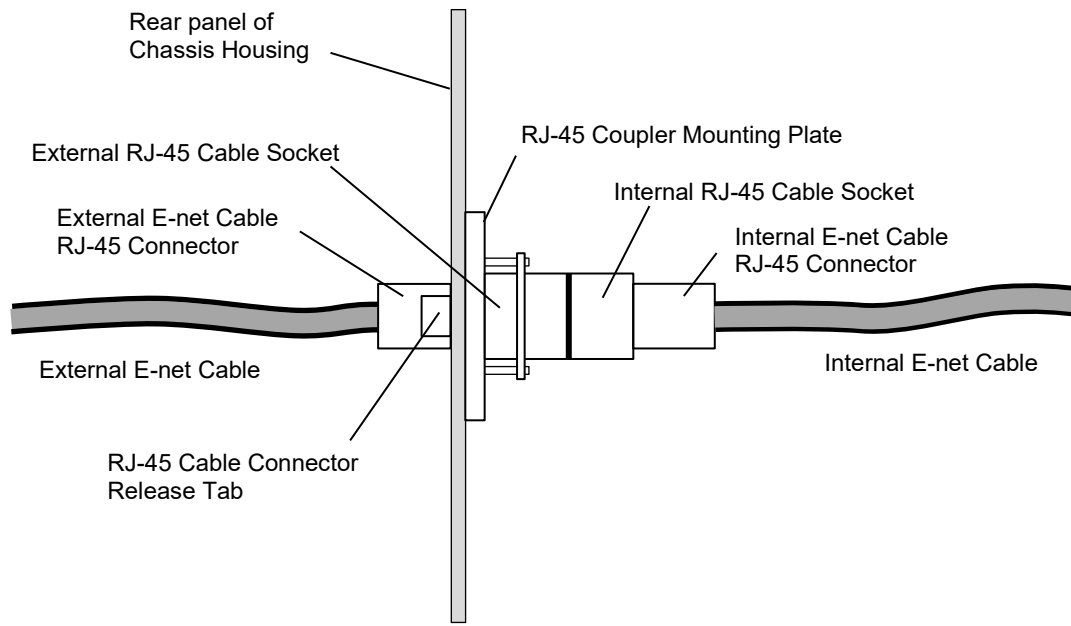

Figure 3: The RJ-45 Coupler Assembly
- 16. Figure 3 shows the RJ-45 Ethernet coupler assembly in detail. Note that this assembly acts as a coupler to connect an Ethernet cable from the outside of the DFR to the Ethernet Interface Module inside the electronics chassis.